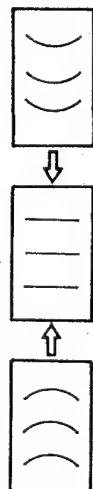

Fig. 29-6.
4. Adjust H. CENTER LINE by turning DA board RV25 as shown in Fig. 29-6.